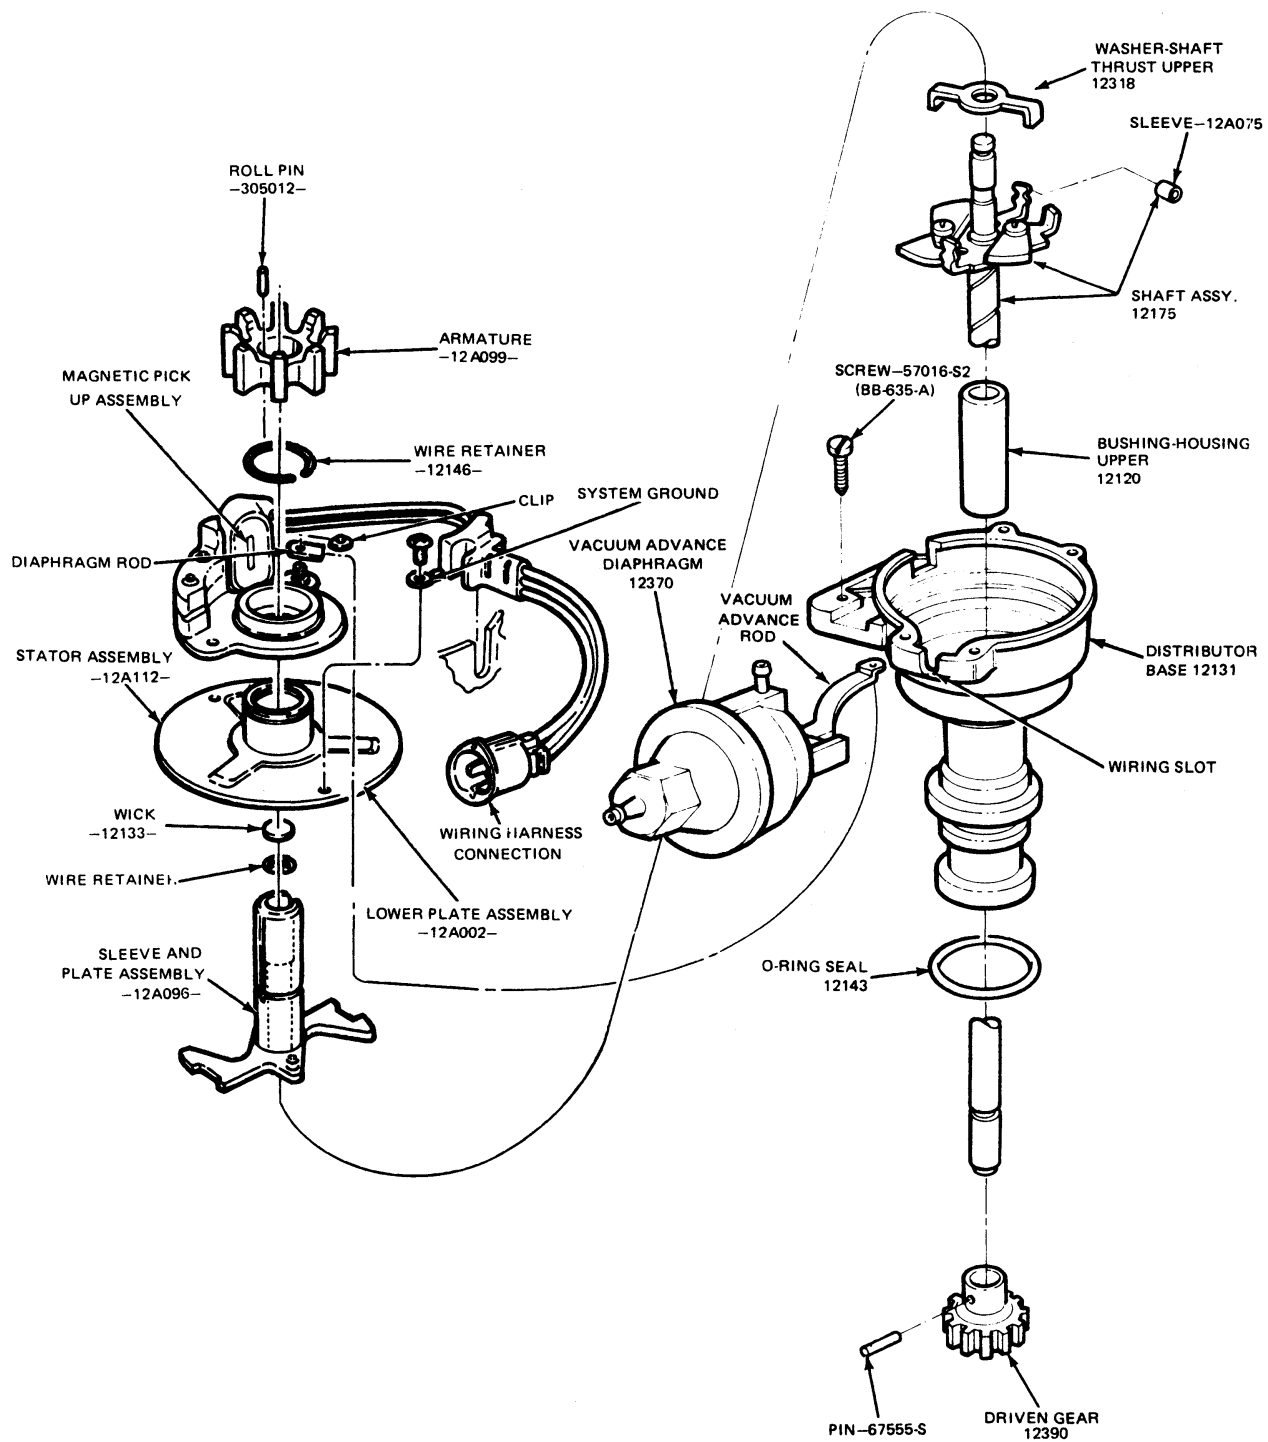

FIG. 10 Typical Breakerless Distributor—6-Cylinder—Disassembled
2. Using a small gear puller or two screwdrivers, lift or pry the armature from the sleeve and assembly plate. Remove the roll pin (Fig. 10).
3. Remove the diaphragm unit attaching screws and carefully remove the unit by tilting downward to disengage the rod from the stator assembly (Fig. 10). It may be necessary to lift the upper plate arm at the pull rod to assist in disengaging the pull rod.